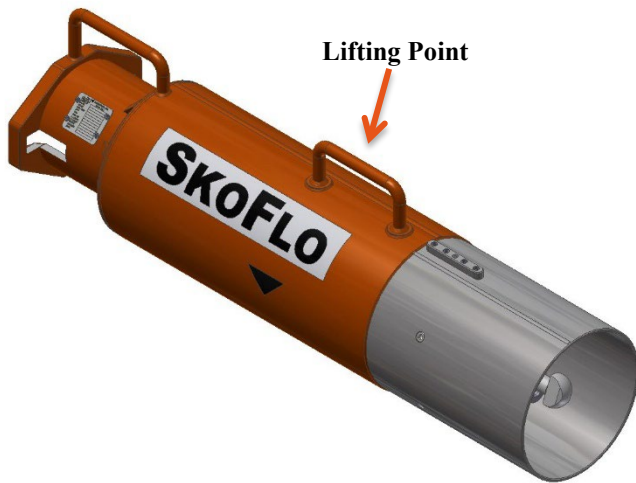

Figure 38: Horizontal Lifting Point Stab
- 17.6.4 Identify the lifting point for the applicable installation configuration per Figure 38 or Figure 40 and strap the D-handle on the docking canister with lifting strap. Use hoist to lift strapped docking canister.
- 17.6.4.1 Refer to Figure 38 for horizontal installations. Use the valve handle located in the middle of the canister to attach ROV buoyancy device if needed.
- 17.7.2 Identify the lifting point shown in Figure 38 and Figure 39 and strap the D-Handle with lifting strap.